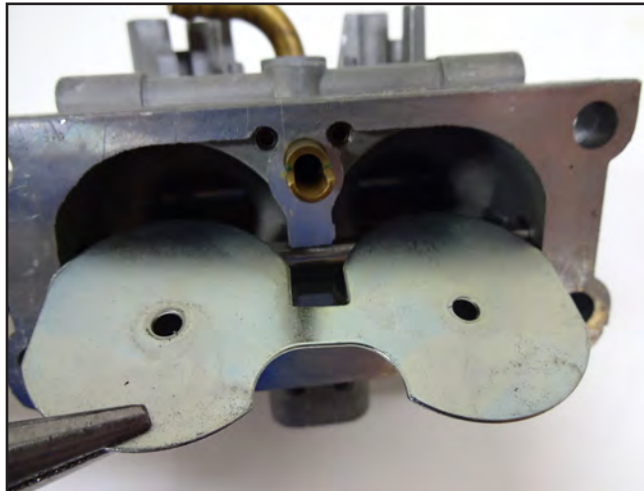

Figure 28
6. Insert the choke butterfly above the choke shaft in the fully open position (Figure 28).